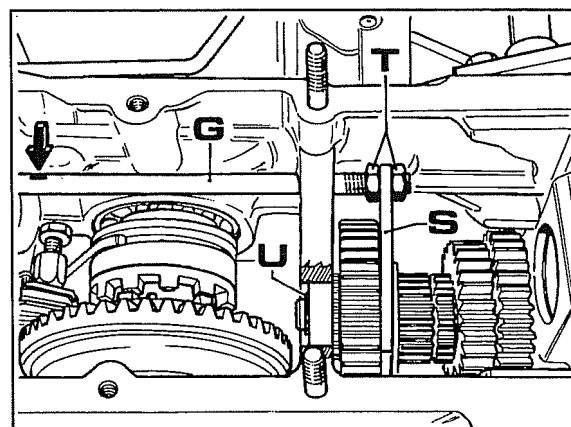

Fig. 15
3. Mark PTO control fork shaft **G** at the point shown by the arrow in Fig. 15. This is necessary to make sure that the shaft can be replaced in its correct rotation position when reassembled.
4. Slacken off PTO select fork **S** Fig. 15 with nuts **T** and then detach it from the rod.
5. Remove bearing retaining snap ring **U** Fig. 15.
- When fitting fork **S** Fig. 15, don't forget to turn rod **G** so that the mark you made on it (the point indicated by the arrow in Fig. 15) is in the original position. Install the fork and regulate its position so that the play is divided equally between the two speed engagements. Also check to make sure that there is no friction when in neutral. At this point, lock the fork in position with both nuts at the same time so that shaft position with the mark is completely unchanged.